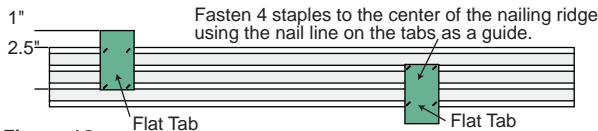

Figure 19
**Step 1:** Attach Flat Tabs to the back side of the trim with 4 18 ga. 1/2" x 1/4" narrow crown galvanized staples using a pneumatic staple gun. The nail line on the tabs provide a guide for fastening the staples. (Figure 19)